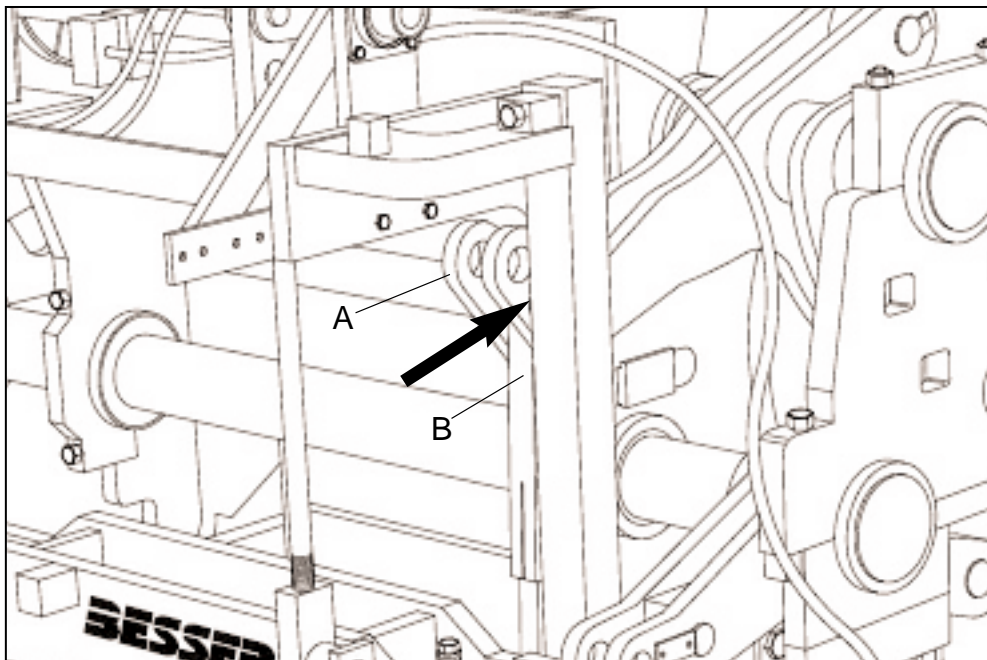

Figure 4.44 STRIPPER HEAD SHAFT AND LINKS.
- b. Stripper head shaft (A) - position pins in inside holes (short stroke) (see figure 4.44).
- c. Stripper head links (B) - position pins in top holes. Adjust links to obtain approximately **105mm [4 1/8"]** between link ends (see figure 4.44).